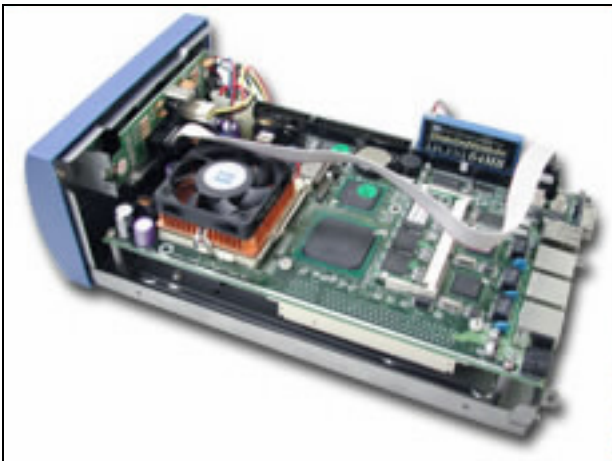

Fig. 2-19 Completion of DOM power connection
2. The completed installation of DOM is shown as *Fig. 2-19*.